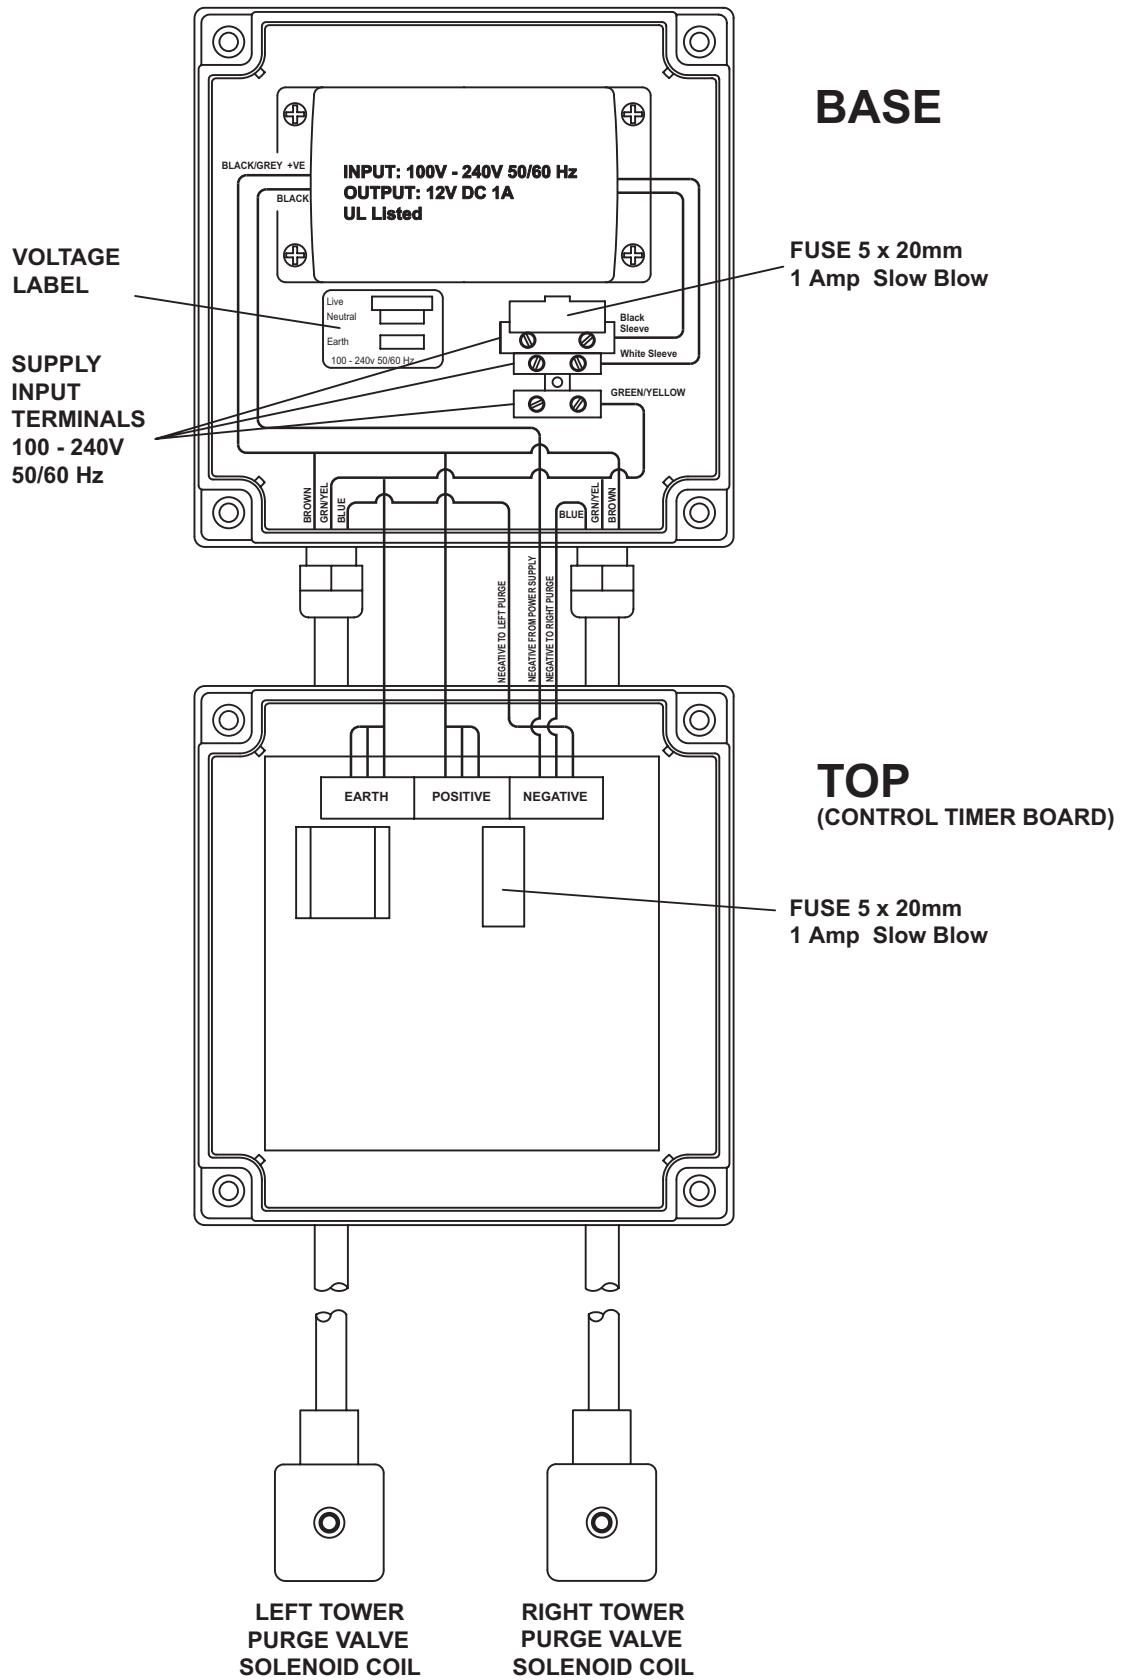

Figure 6-2
- Figure 6-2 Point-to-Point Diagram
See Figure 6-2 Point-to-Point Diagram for the location and function of the various cable and cord connectors that are provided on the bottom of the Basic Timer Controller enclosure.